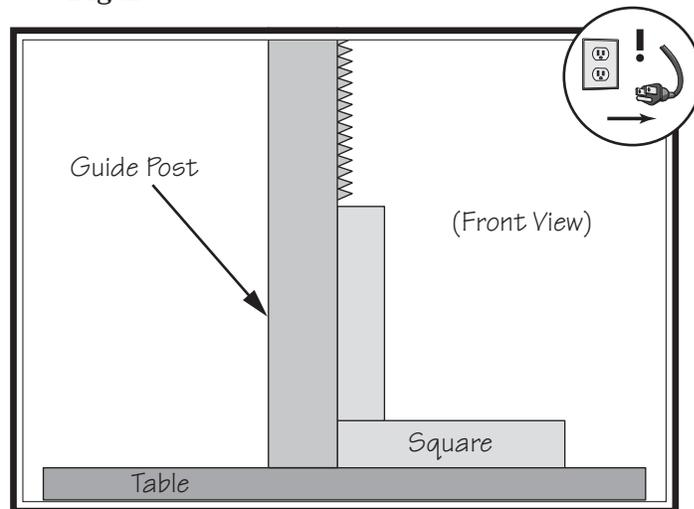

Figure 95. Example of checking guide post squareness.
- Place machinist's square on table next to right-hand side of guide post, as shown in **Figure 95**.